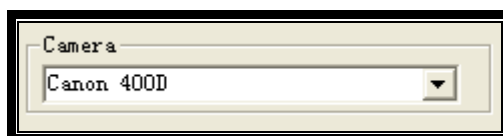

Fig.3-7
Step7: Find a drop down option box in the Camera frame and chose the specific camera type which you will use in the correction, as shown in Fig. 3-7.